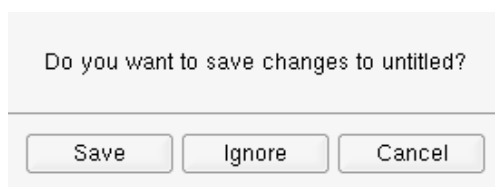

Figure 2.22: Save Changes dialog
- **Build New** starts a new build project. If the currently edited structure has been modified since the last save operation, you are presented with the **Save Changes** dialog, Figure 2.22 . The **Save** button in the dialog saves the current molecule. If the project is untitled, the **Save As** dialog is displayed. The **Ignore** button in the dialog causes the last changes in the edited molecule to be lost. The **Cancel** dialog button cancels the operation.
- **Quit** exits **PQSMOL**. If the currently edited molecule has been modified since the last save operation, you are presented with the **Save Changes** dialog, Figure 2.22.